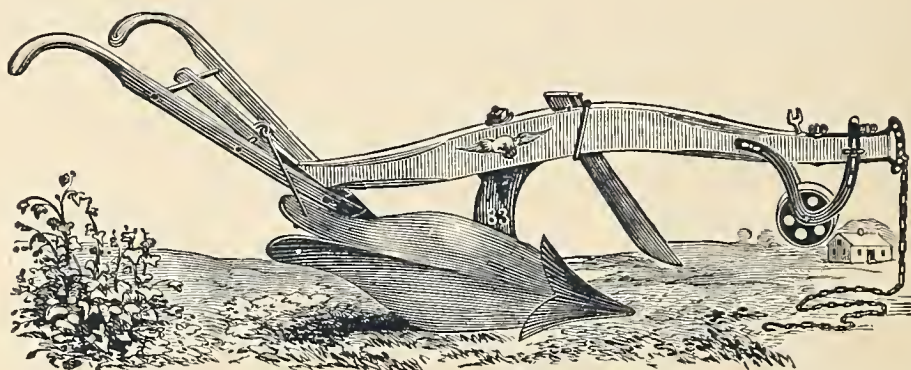

Fig. 287.—Eagle Swivel Plow, No. 83.
**Eagle Swivel Plow, No. 83**, represented by *Fig. 287*, a SWIVEL PLOW for level land, is adapted to turn sod-furrows five to seven inches deep by ten to twelve inches wide, requiring for draft two or three horses or cattle.